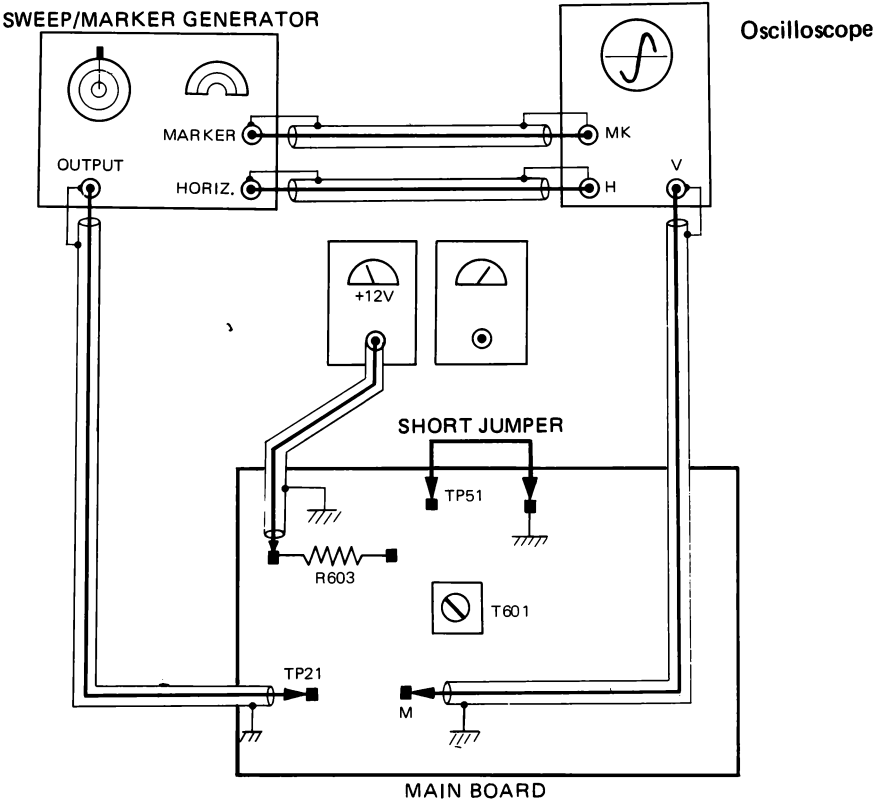

Figure 32. Sound IF DET. Coil Alignment
* STEP (1) DOESN'T NEED IN 507Z SERIES.
- GENERAL Refer to figure 32 and 33 for test equipment connection and alignment points.